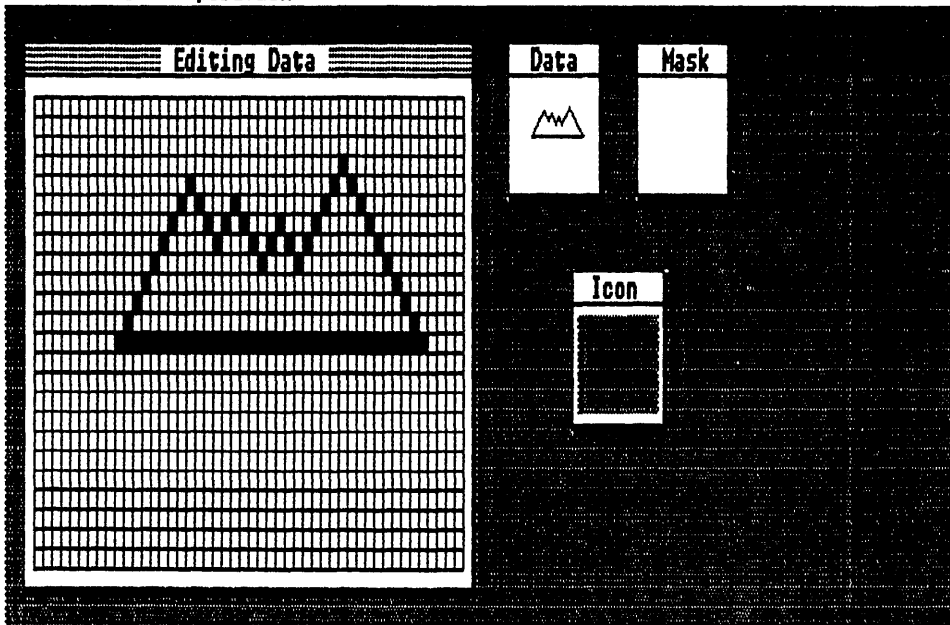

Fig. 7-1. ICONEDIT is used for designing GEM icons.
2. Design the application's icons with the GEM ICONEDIT (Fig. 7-1).